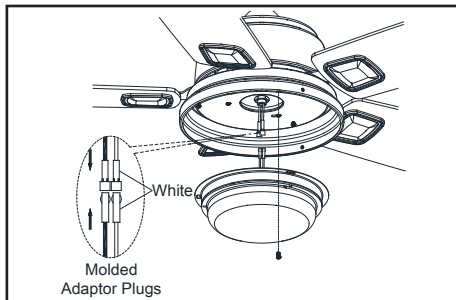

Figure 16
3. Remove one screw from the switch cup cover and loosen, but do not remove the other two screws. Connect the wires from the light kit to the wires from the fan motor assembly by connecting the molded adaptor plugs together. Carefully tuck all wires and splices into the switch cap. (Figure 16)
4. Push the light kit up so that the two loosened screw heads fit into the keyhole slots. Turn the light kit clockwise, tighten the screws. Re-install the screw that was removed in step 3 and tighten firmly. (Figure 16)